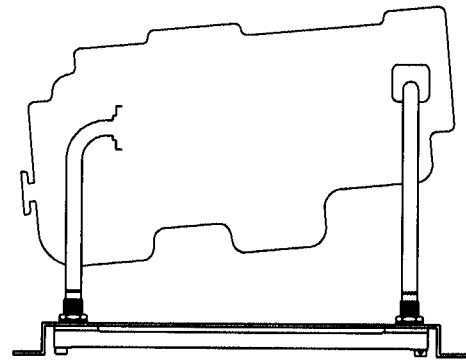

FIG. 12 Plumb keel cooler directly to the engine (simplified)
2.4.2 When converting an engine from inboard heat exchanger cooling to keel cooling, do not pipe the keel cooler to a heat exchanger, bypass the heat exchanger and pipe the keel cooler directly to the engine. See Figure 12.